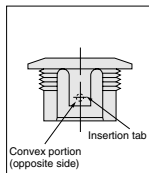

Figure 2
5. If removing the pressure gauge itself from the panel mounting case, first remove the mounting ring, and then pull up on the tab located on the bottom of the panel mount case. The pressure gauge can now be easily removed by pushing it out. Be aware that forcibly attempting to remove the pressure gauge without first pulling on the tab could damage the convex section inside the tab that is used to prevent falling. (see Figure 2)